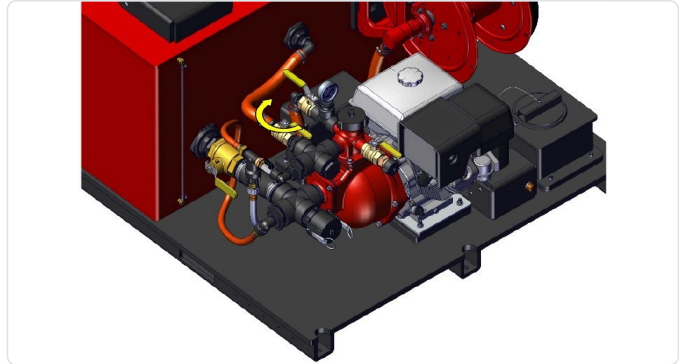

Figure 12. 1" Pump to Tank valve closed
4. Close the 1" Pump to Tank valve so water does not enter the tank (Figure 12).